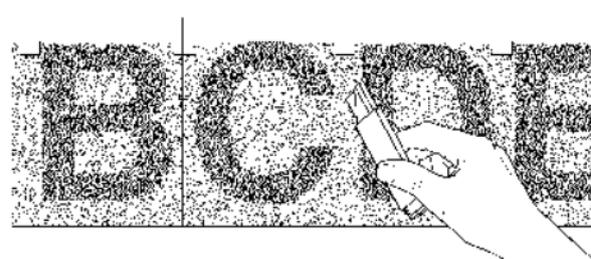

Figure 15. Cut Between the Elements of a Prespaced Graphic
2. Cut between each element, starting just above the top edge of the film, which is partially covered by tape. This makes an independent hinge for each element. See Figure 15.